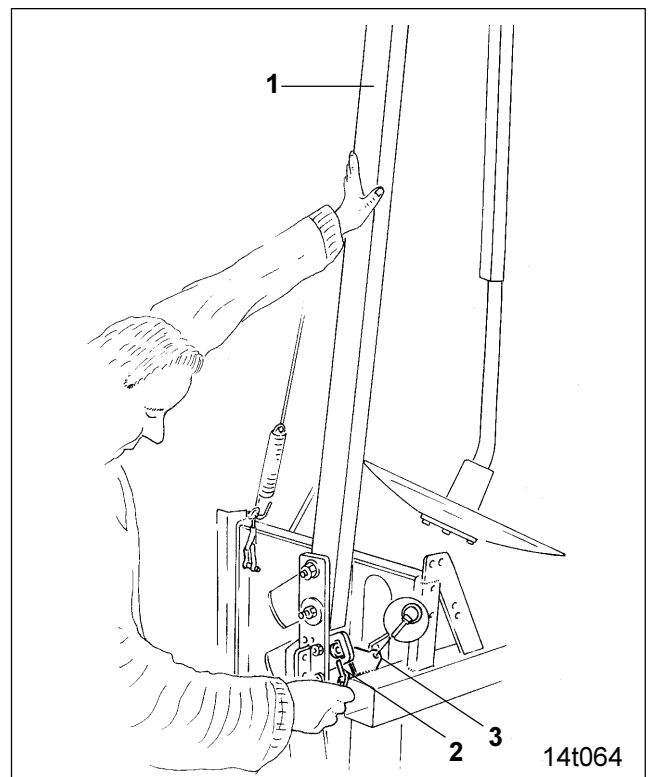

Fig. 12.8
- hold track marker arm (Fig. 12.8/1) and remove clip pin (Fig. 12.8/2) (required for transport)
- When not needed, insert the clip pin (Fig. 12.8/2) into the bracket (Fig. 12.8/3) into the bracket (Fig. 12.8/3)
After removal of the clip pin (Fig. 12.10 bzw. Fig. 12.8) the marker arm is moved out slightly to the side.